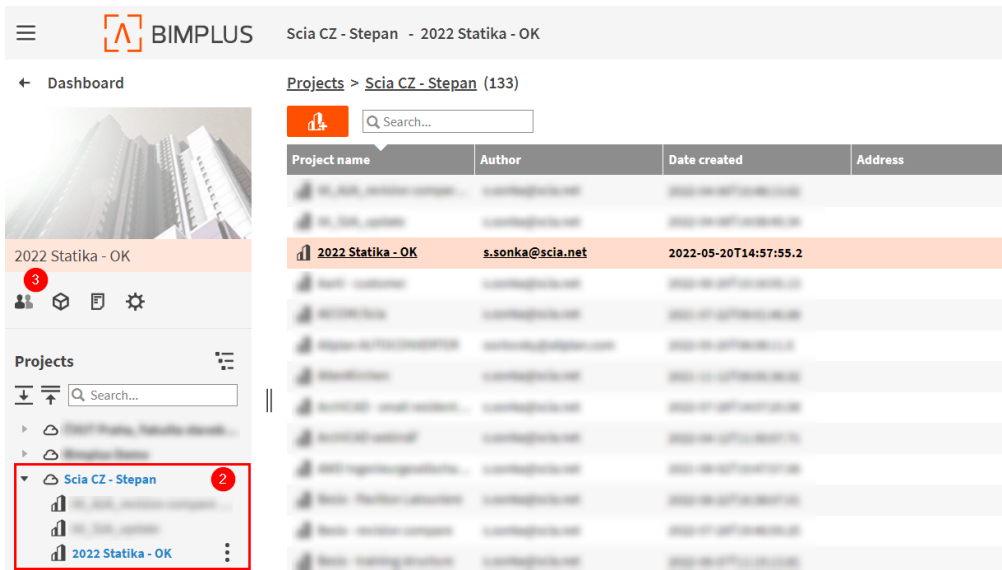

Figure 49: Select the right team, project and open "Administration"
2. On the left, select the right team and project where you want to add your colleague in. (Figure 49)
3. Click on the "Administration of project members" icon. (Figure 49)